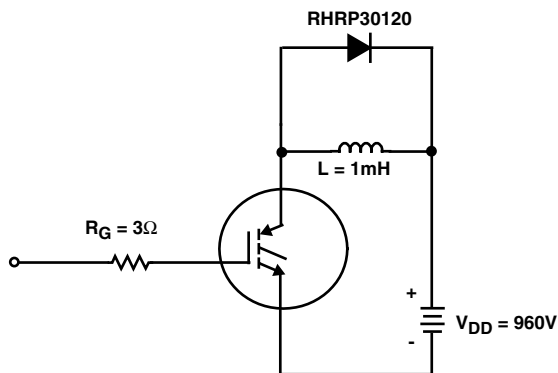

FIGURE 18. INDUCTIVE SWITCHING TEST CIRCUIT
- Values for two Turn-On loss conditions are shown for the convenience of the circuit designer. EON1 is the turn-on loss of the IGBT only. EON2 is the turn-on loss when a typical diode is used in the test circuit and the diode is at the same T_J as the IGBT. The diode type is specified in Figure 18.